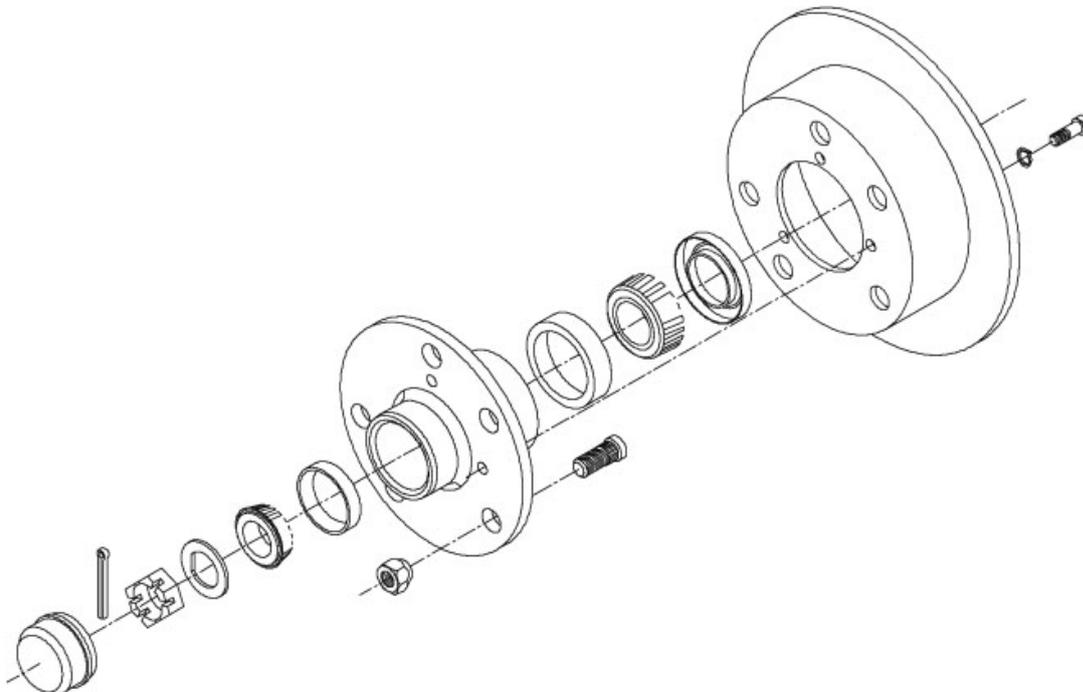

Figure 3 Wheel Hub Assembly – Exploded View
6. **Wheel Hubs.** The axle is fitted with 8-inch flange type wheel hubs (Figure 3) carried by tapered roller bearings. Each hub assembly is fitted with a disc brake and a parking brake assembly.